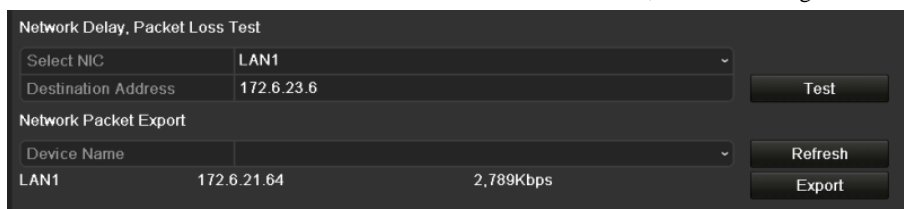

Figure 11. 32 Network Detection Interface
2. Click the **Network Detection** tab to enter the Network Detection menu, as shown in Figure 11. 32.